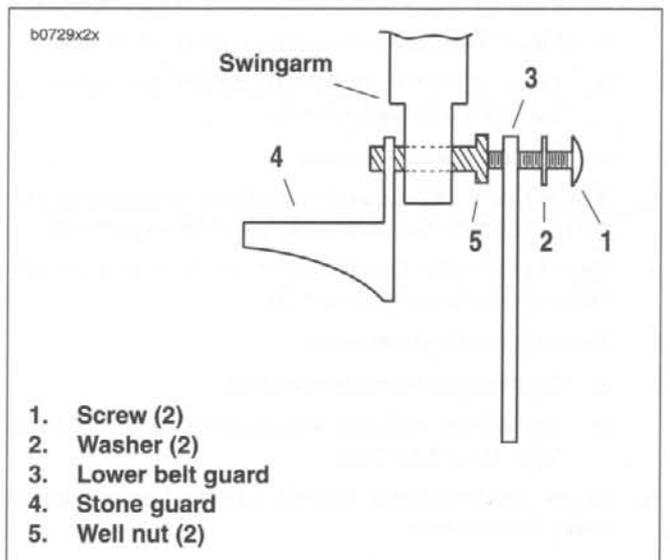

Figure 2-155. Stone Guard Mounting
1. See Figure 2-155. Position stone guard (4) with well nuts (5) and lower belt guard (3) on swingarm.
2. Secure with two screws (1) and washers (2).